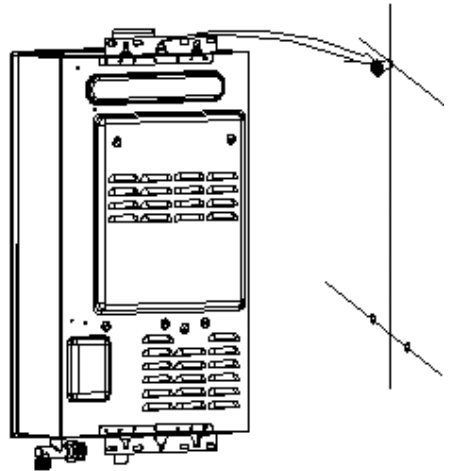
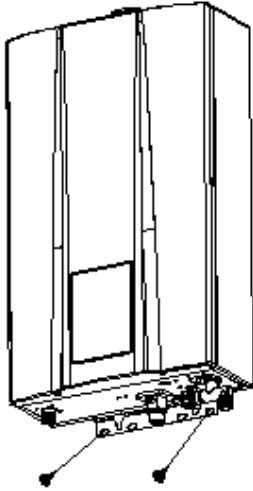
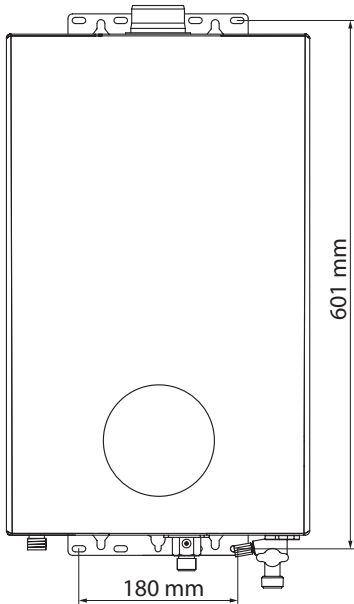

Figure 6.4-1
Figure 6.4-2
Figure 6.4-3
- Drill holes in the wall according to Figure 6.4-1. Figure 6.4-2 and Figure 6.4-3, it is strongly recommended that strong fixings are used in the top and bottom securing holes.